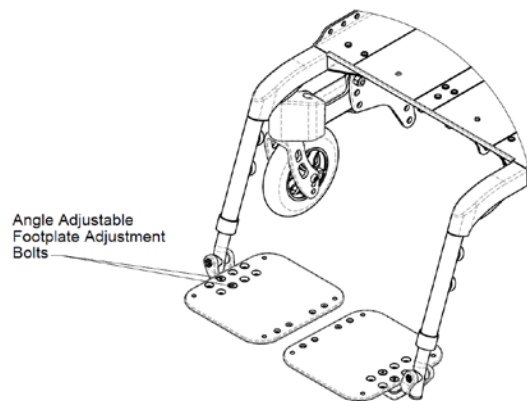

Figure 10.6: *Adjustable angle footplates*
1. Loosen the angle adjustable footplate adjustment bolts as shown in Figure 10.6.
1. Remove the angle adjustable footplate adjustment bolts as shown in Figure 10.6.
1. Loosen the angle adjustable footplate adjustment bolts (See Figure 10.6).
1. Remove the angle adjustable footplate adjustment bolts shown (See Figure 10.6).